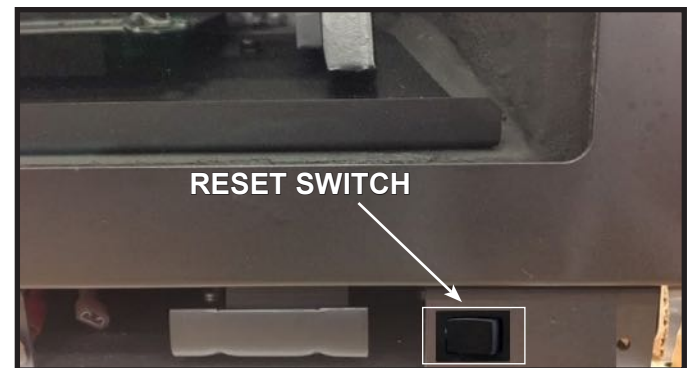

Figure 3.7 Reset Switch Location
1. The Electronic Control Module (IFT-ECM) has a three-position ON/OFF/REMOTE selector switch that must be set for proper operation. See Figure 3.7. When changing switch positions, it is important to pause in each position for 1-2 seconds.
The appliance has a reset switch located on the lower right hand side of the appliance behind the decorative barrier front. See Figure 3.7.